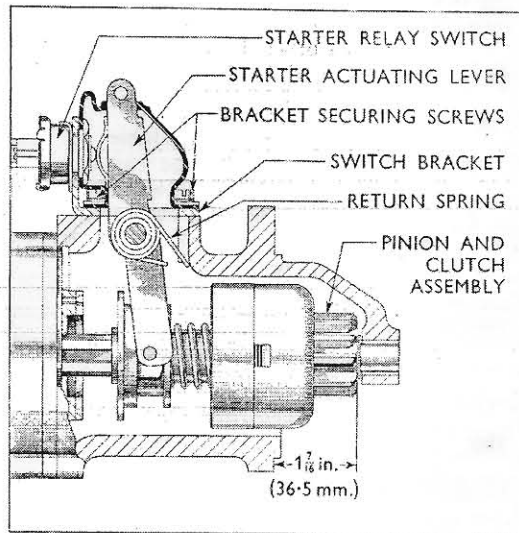

Fig. 4. Diesel Starter Actuating Mechanism in the Operating Position
16. Depress the actuating lever until the distance from the rear face of the pinion teeth to the starter motor mounting flange is $1\frac{7}{8}$ ins. (36.5 mm.) as shown in Fig. 4.